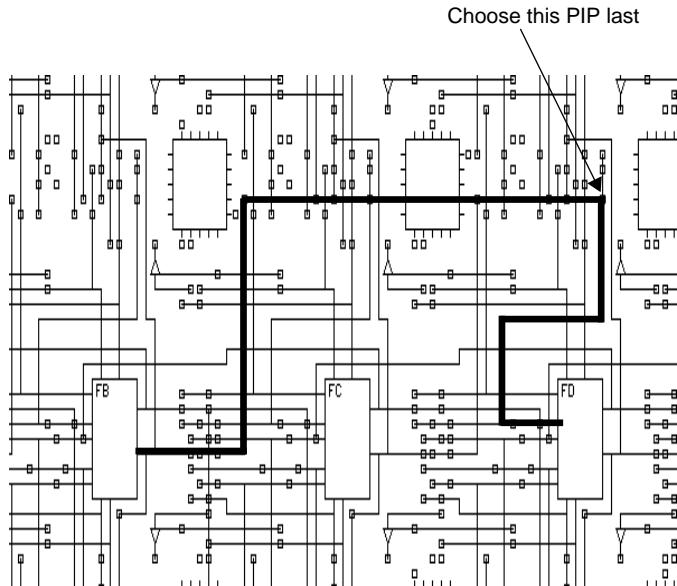

Figure 9-24 Manual Routing — Step 4
12. Finally, click on the PIP on the highlighted wire directly to the right of switch matrix pin 9, as indicated by Figure 9-24.
The net is now routed. Figure 9-24 shows the complete routing path for net10.